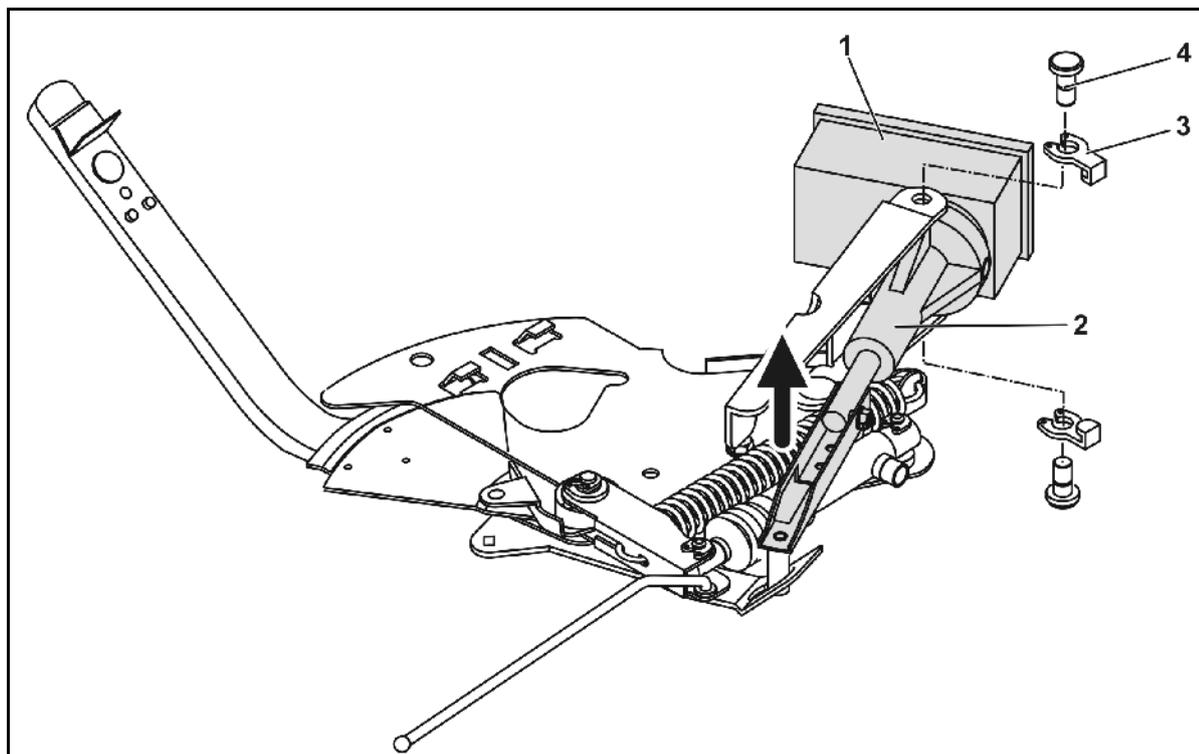

Fig. 82
1. Remove the two securing clips (Fig. 82/3) with pliers /.
2. Withdraw the two hinge pins (Fig. 82/4).
3. Remove the setting motor (Fig. 82/1) from the console.
4. Raise the setting motor /and detach the pushrod (Fig. 82/2) from the plug-in connection of the dosing slider.
Secure the detached pushrod (Fig. 82/2) against swivelling into the working area of the hydraulic cylinder.